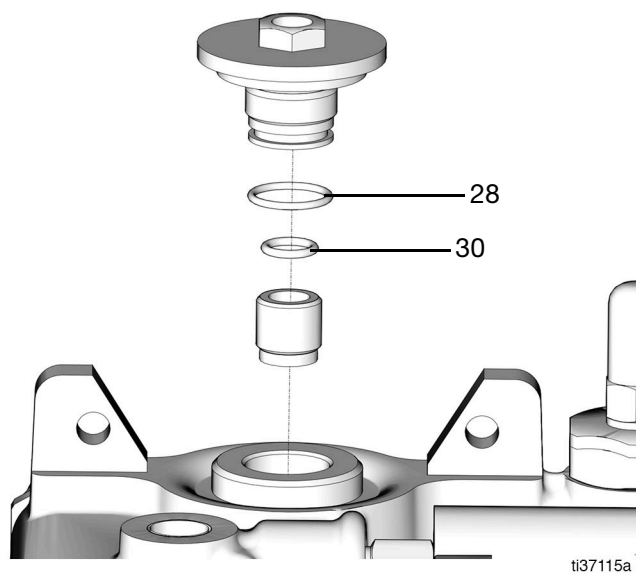

FIG. 51
3. Replace the inner o-ring (30) from the retaining nut (9) with a new o-ring and grease lightly. (FIG. 51).
4. Replace the outer o-ring (28) from the retaining nut (9) with a new o-ring and grease lightly (FIG. 51).